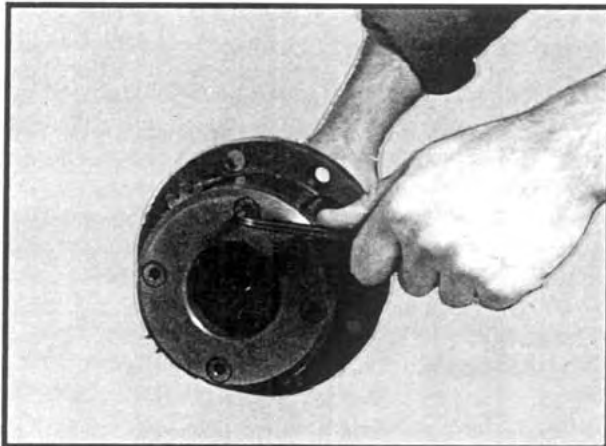

Fig 30
4. Remove the (4) allen-head screws securing the planet carrier cover plate to the planet carrier. See Figure 30. Remove the cover plate and lift out the (4) planet gears. Guide the sun gear (front output shaft) out of the planet gear.